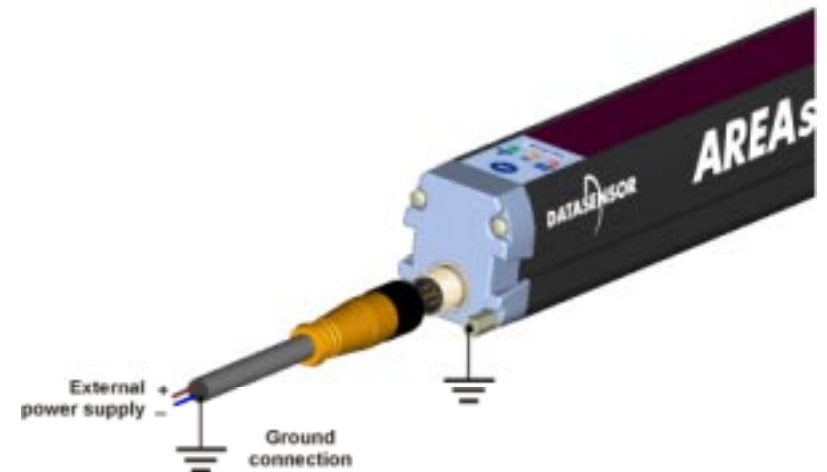

Fig. 5
- Shielded cables are not foreseen in the standard connection. However, if necessary, these cables can be used; in this case ground connection is necessary of both the unit and cable, as shown in Fig.5.
- Follow the connection illustrated in Fig.5 when ground connection of the entire system is used.